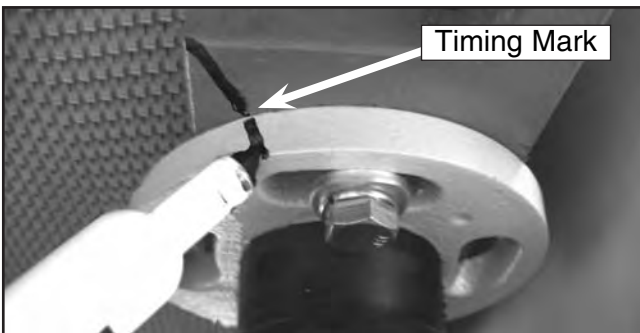

Figure 35. Marking lead screw for reassembly.
6. Using a permanent marker, mark all four lead screw flange positions (**Figure 35**), and remove all hex bolts from the flanges.